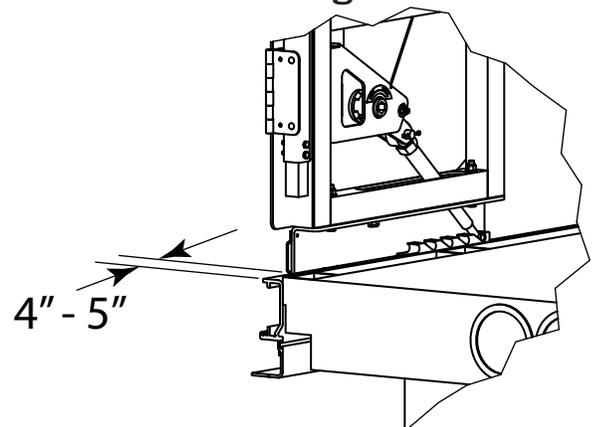

Figure 42
2) See **Figure 42**. Place the rear rack - lock (1) on the side rail with opening of the notches facing the rear. With the lock assembly in the locked position and in the forward most notch in the rear rack-lock mark it's location. Repeat on the other rail.